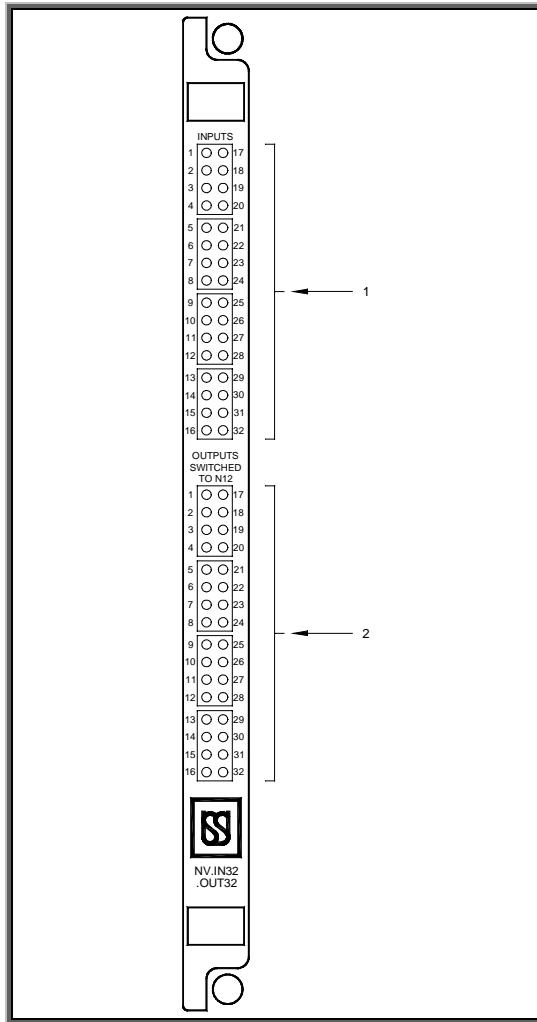

Figure-2.5
2.5 NON-VITAL I/O PRINTED CIRCUIT BOARD (Refer Figure-2.5)